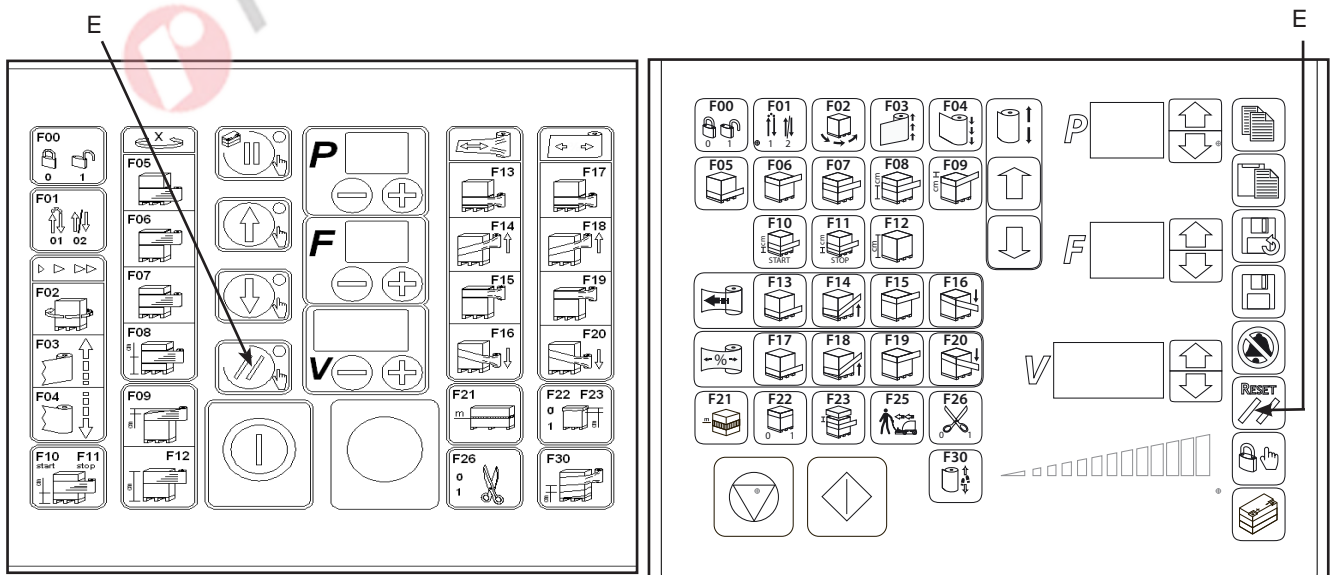

Fig. 5.2
- resettare l'allarme premendo il pulsante RESET (E) (Fig.5.2) del pannello di controllo.
- reset the alarm by pressing the RESET (E) key (Fig.5.2) located on the control panel